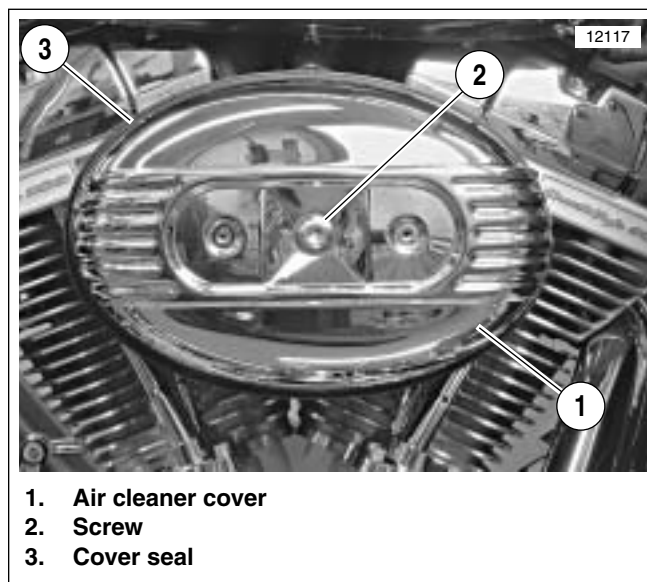

Figure 4-2. Air Cleaner Cover and Screw
2. See Figure 4-2. Remove screw (2) and air cleaner cover (1).
1. See Figure 4-2. Install air cleaner cover (1). Make sure rubber cover seal (3) fits all the way around the cover.
2. Install screw (2). Tighten to 36-60 **in-lbs** (4.1-6.8 Nm).
3. Install decorative cover trim (2) and two screws (3).